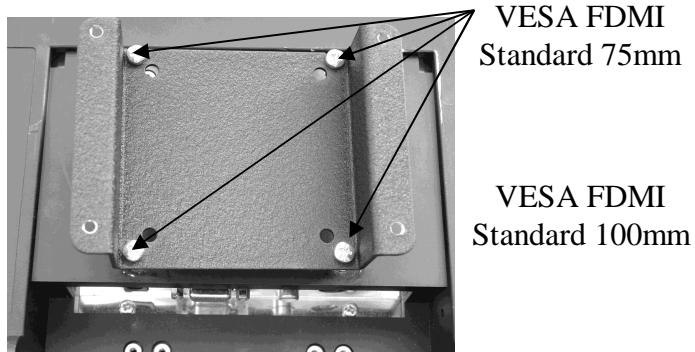

Figure 2. 75mm Bracket Installation
1. Secure the 75mm adapter bracket to your monitor using four M4 x 6mm Phillips head screws (provided) (see Figure 2).